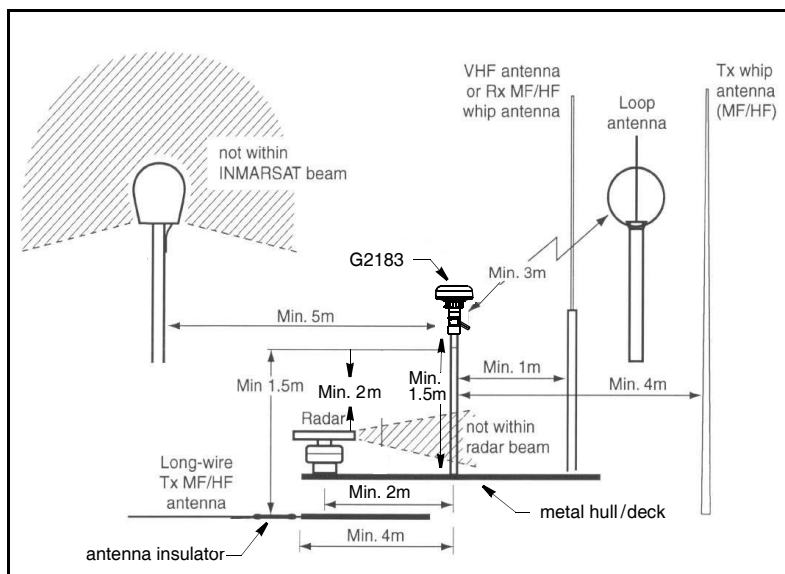

Figure 1. Minimum distance from sensor
- Mount it as far as possible from high-powered transmitting antennas to avoid mutual interference (see Figure 1).